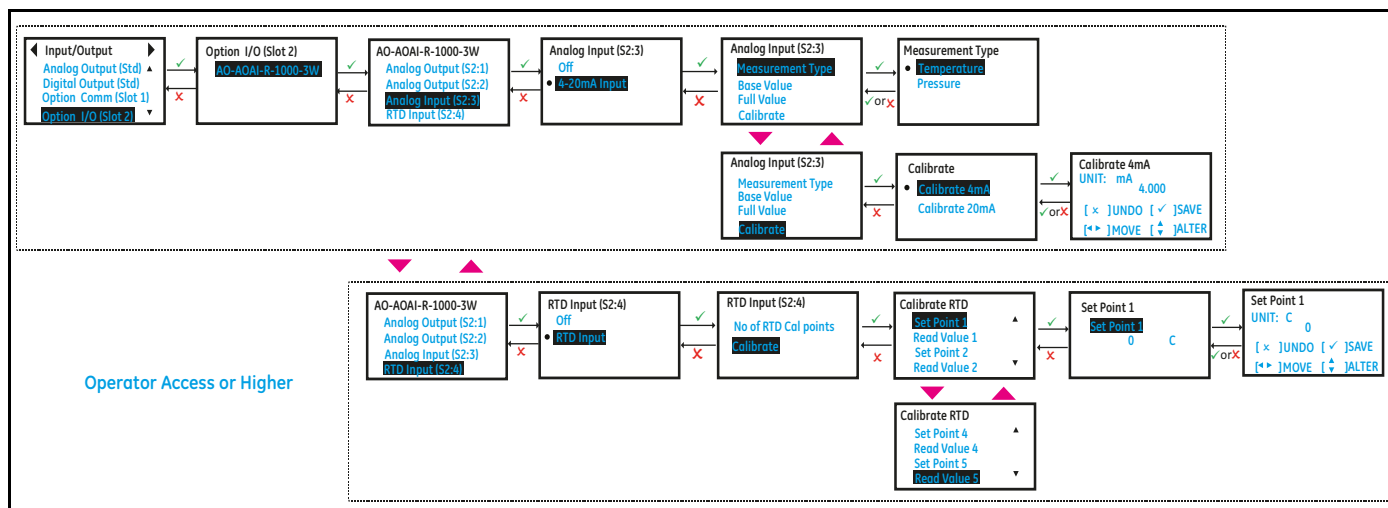

Figure 31: Setting up Option I/O Analog Input/RTD Input
- 4. If you are connecting an Analog Input, choose **[4-20mA]** option. Figure 31 below, shows the options available.
2. Use steps as in Section 3.3.2 to navigate to the *Input/Output* settings page. Refer to Figure 31 above, select **[Option I/O (Slot 2)]** and press **[ENTER]**.